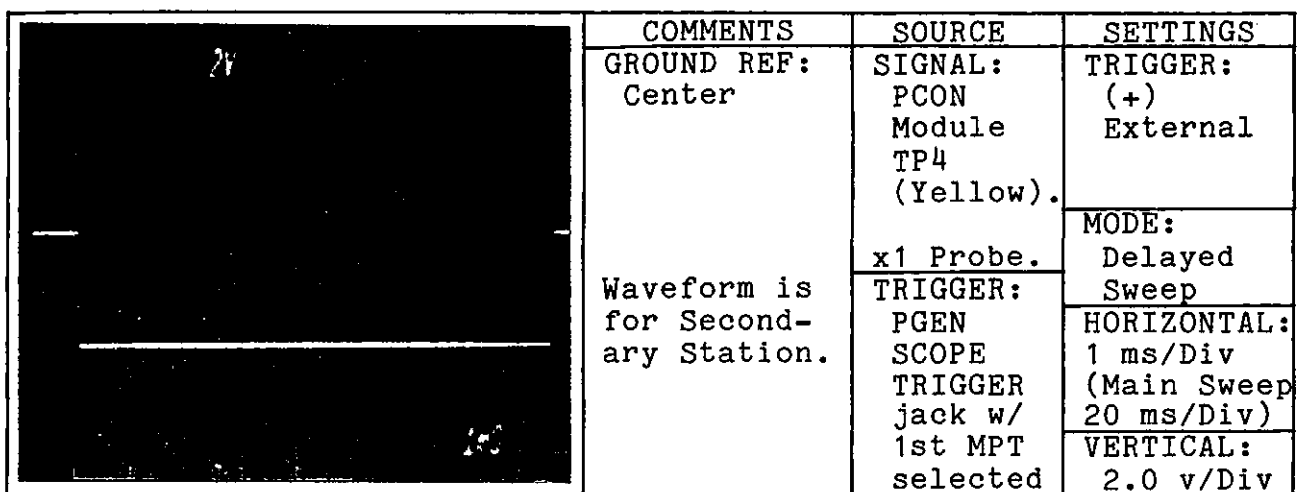

Figure 5.40. Local Interval
3. (A) LOCAL INTERVAL FIGURE 5.40.